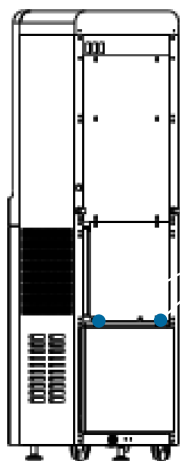
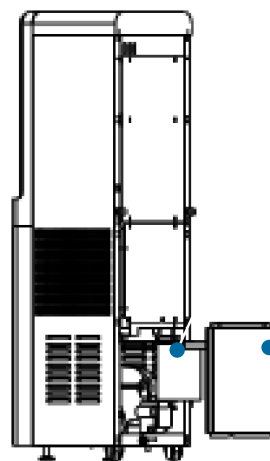

Figure 6 · Unscrew the screws of the rear cover
Figure 7 · Loosen the rear cover and pull out the bottom tank
4. Using a screwdriver, remove both screws from the back cover (Figure 6). Grasp the handle of the lower tank and pull it slowly towards you. Do not disconnect the tubing and the connectors. Pour the remaining water out of the tank by tilting it (Figure 7).
2. Using a screwdriver, or by hand, remove the two screws from the rear cover (Figure 6).
3. Grasp the handle of the lower tank and pull it slowly towards you. Disconnect the tubing and the connectors and pour the remaining water out of the tank by tilting it (Figure 7).
2. Using a screwdriver, remove both screws from the rear plate (Figure 6).
3. Grasp the handle of the lower tank and pull it halfway towards you. Do not disconnect the tubing and the connectors (Figure 7).